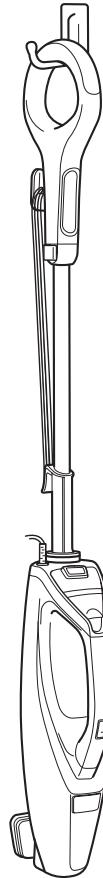

fig. 13
- 5 To store the Steam Mop hanging up, first remove the Mop Head (after it has cooled and the steam has been released), then hang on a large hook (not included) (fig. 13).